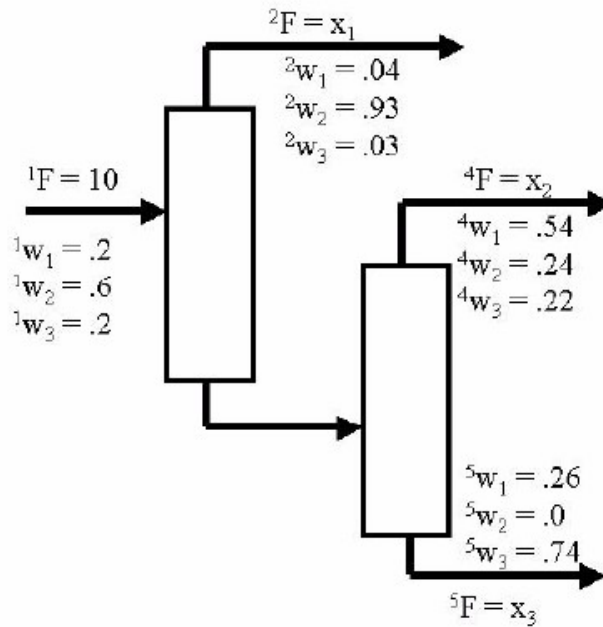

Fig. 1: A Separation system
Q.3 Consider a separation system as shown in Fig. 1. By setting up the mass balances, calculate the mass flow rates of each outlet streams (x_1 , x_2 and x_3) using Gauss elimination with backward sweep. [15]